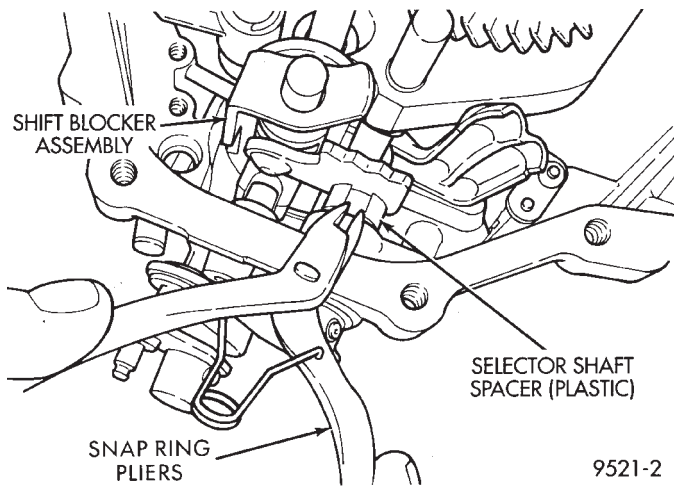

Fig. 48 Remove Selector Shaft Spacer
(9) Using snap-ring pliers, remove selector shaft spacer (Fig. 48).